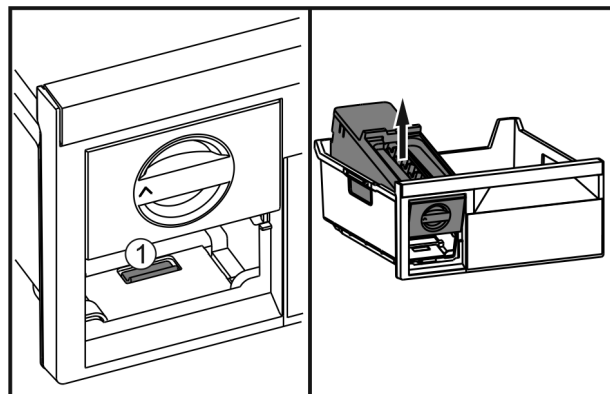

Fig. 30
- Press the lug Fig. 30 (1), lift up the EasyTwist-Ice at the back and take it out of the freezer drawer.